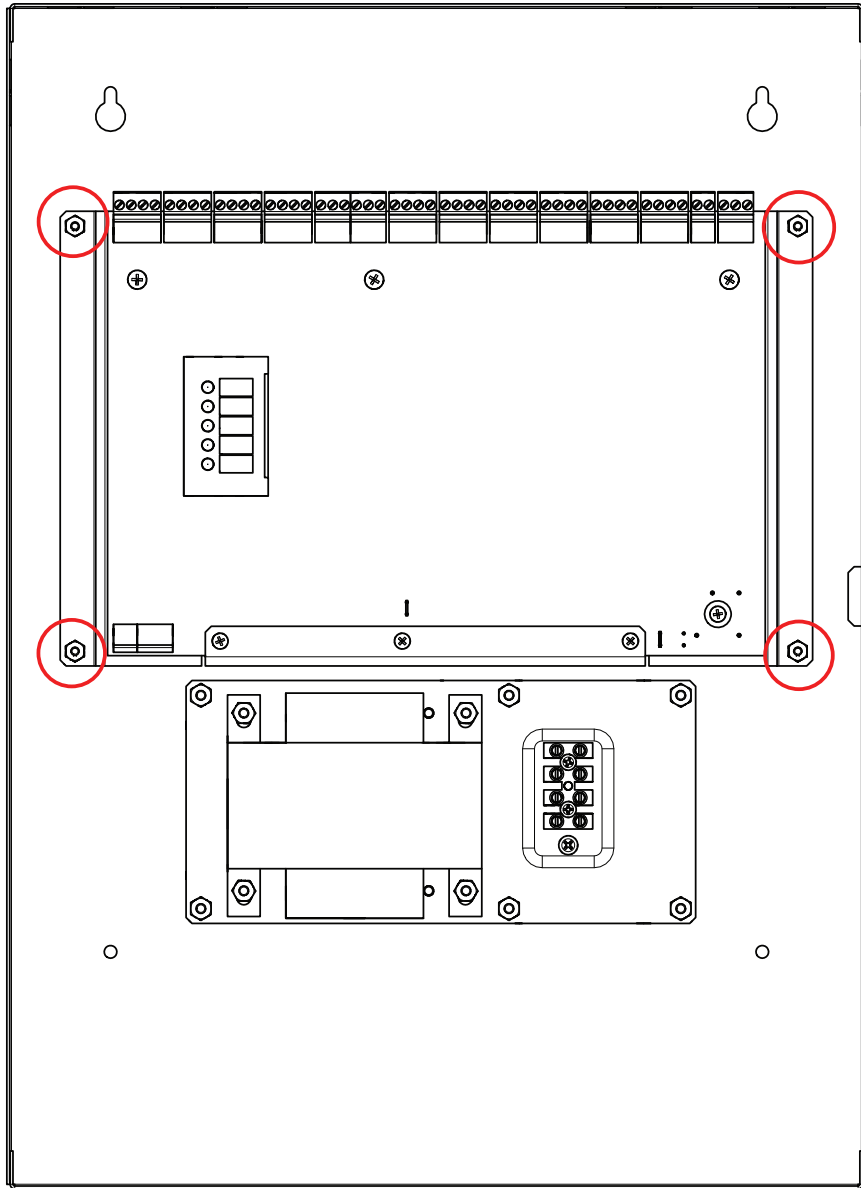
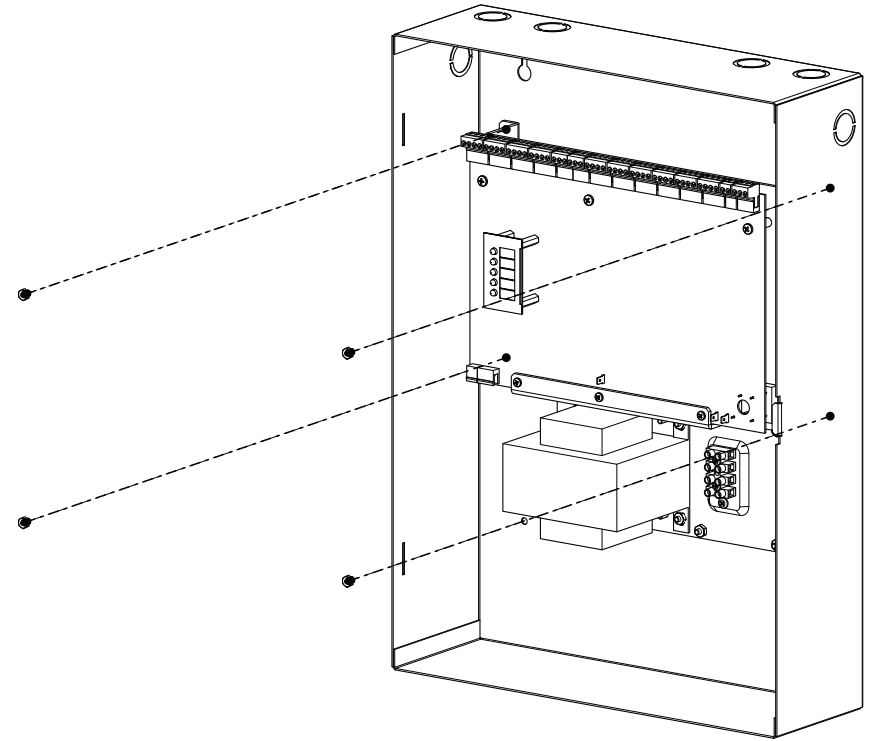

Figure 1 Hex Nut Locations
Figure 2 Removing the Hex Nuts
4. Remove the 4, #6-32 Hex Nut Lockwashers securing the MD-950 to the enclosure from the locations shown in Figure 1 and Figure 2.